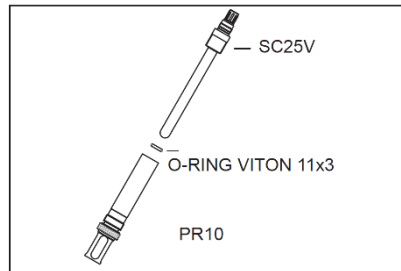

Figure 4: PR10... -PH13 (K1523AB)
- PR10 retractable fitting (see fig 4).